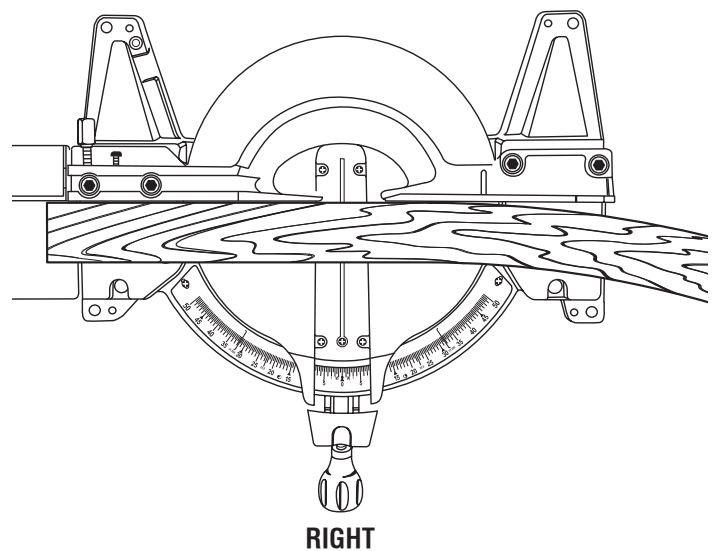

Fig. 37
- Place the workpiece flat on the miter table with one edge securely against the fence. If the board is warped, place the convex side against the fence. If the concave edge of a board could collapse on the blade at the end of the cut, jamming the blade. *See Figures 37 - 38.*
See Figures 37 - 38.
When cutting warped material, always make sure it is positioned on the miter table with the convex side against the fence as shown in figure 37.